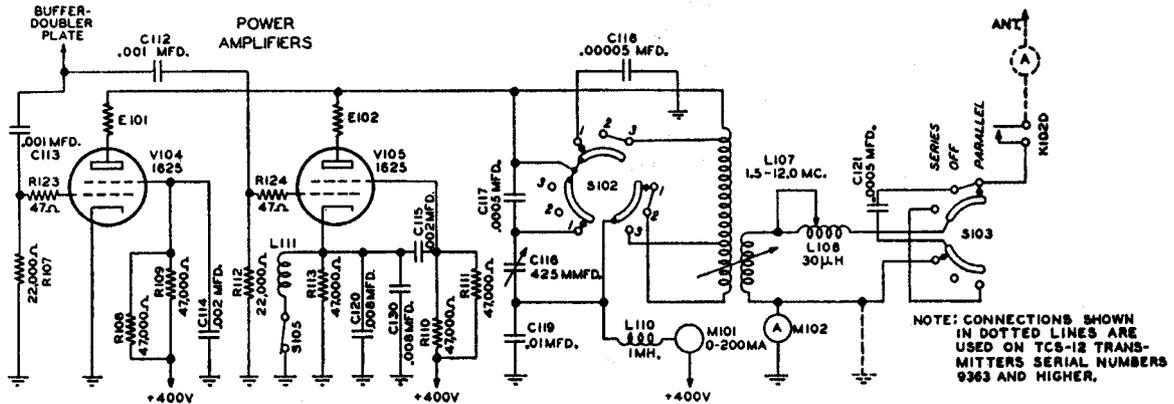

Fig. 3. P.A. Output & Antenna Coupling Circuits
2.2.5.1. Refer to Figure 3. The power amplifier employs two Type 1625 beam pentode tubes connected in parallel. During periods of VOICE emission, only V104 is in operation. The other power amplifier tube, V105, is rendered inoperative by the operation of the EMISSION selector switch, S105, to the VOICE position. When switch S105 is operated to the VOICE position, a resistor, R113, is connected between the cathode of the tube and ground, and the filament voltage is removed from V105. The full voltage of the power unit, 400 volts, is applied to the plates of V104 and V105. Series feed is employed. Screen voltage for the tubes is obtained through dropping resistors R108, R109, R110, and R111. The tubes are self-biased by the grid resistors, R107 and R112.